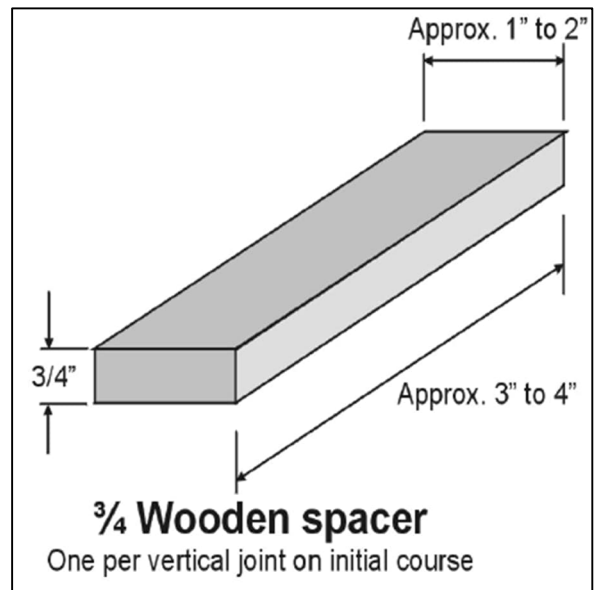

Figure 5: Wooden spacer.
- Wooden spacers, 3/4-in. (Figure 5).